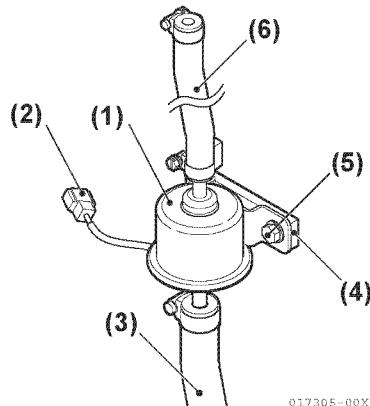

Figure 6-17
3. 4JH4AE: Disconnect electrical connector (**Figure 6-17, (1)**).